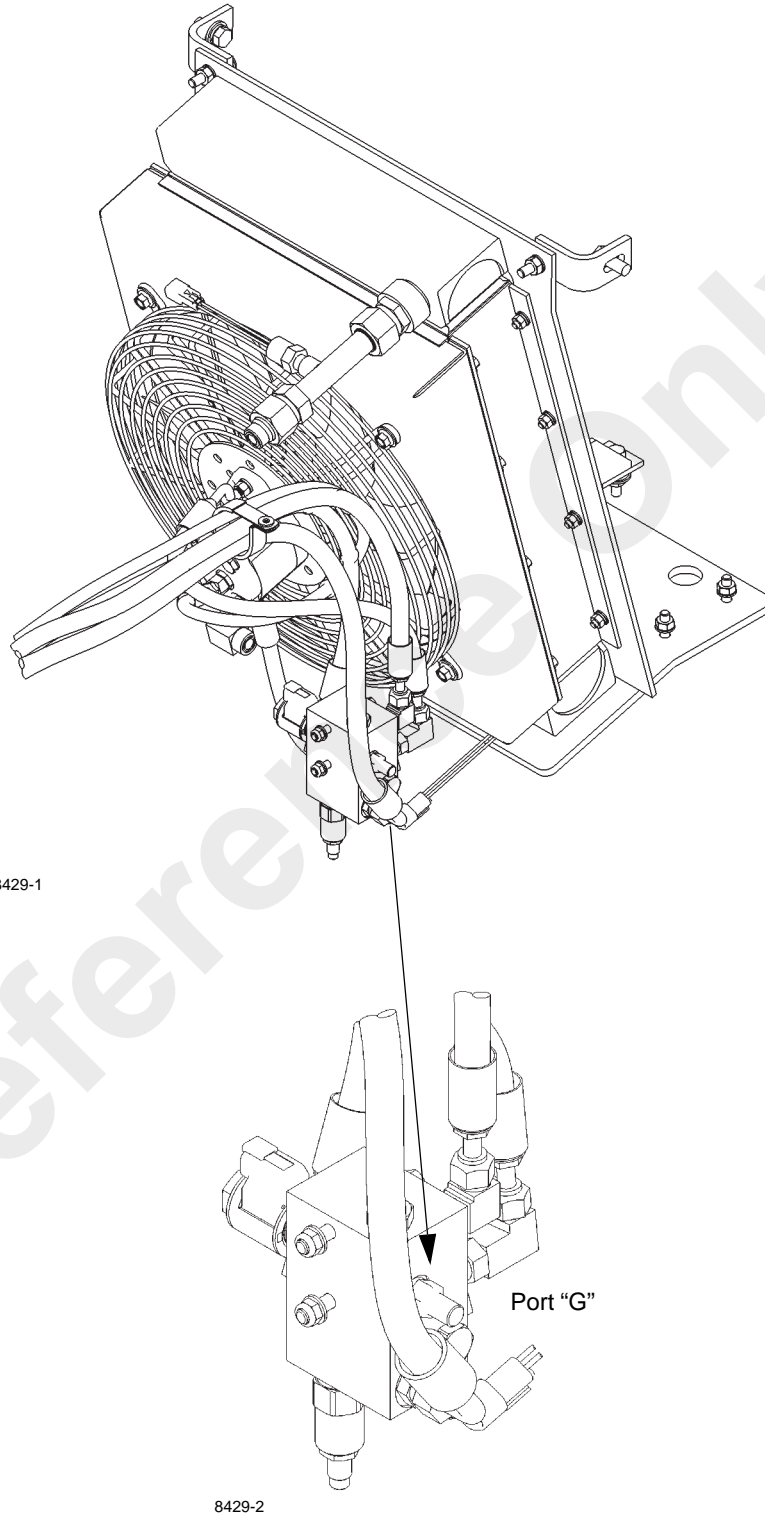

FIGURE 7-9
1. The pressure check diagnostic quick disconnect with gauge should be installed onto oil cooler motor valve "G" port, located at the oil cooler (Figure 7-9).